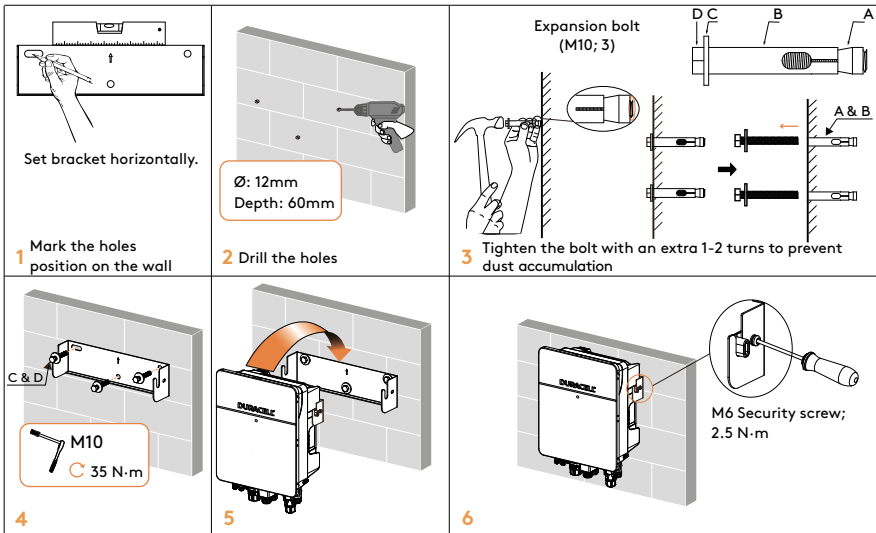

Figure 12.
1. Use a level ruler to mark the position of the 3 holes on the wall. Refer to Figure a. And drill 3 holes, 12mm in diameter and 60mm in depth. Refer to **Figure 12, (2)**.
2. Using a hammer to tap the expansion bolt kit into the hole. Refer to **Figure 12, (3)**. Do not disassemble the expansion bolt - before tapping the expansion bolt into the hole, tighten the bolt with an extra 1-2 turns to prevent dust accumulation.
3. After tightening the 3 bolts, then unscrew the threaded bolts. Refer to **Figure 12, (3)**.
4. Install and fix the mounting bracket on the wall. Refer to **Figure 12, (4)**.
**Step 1. Install the inverter on the mounting bracket. Then lock the inverter using the security screw. Refer to Figure 12, (5) & (6).**